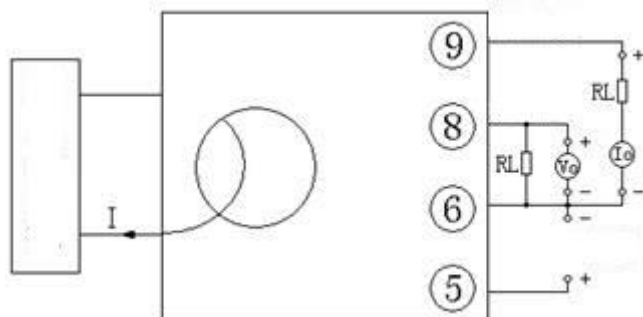

Figure 6, test wiring diagram of product accuracy.
- ①①① A high-precision high-current meter calibrator can directly input current as shown in figure 6, and record the display data of the meter calibration instrument.
- ② There is no high-current high-precision instrument calibrator, but an ordinary high-precision instrument calibrator. Use ampere-turn method to output small current (5A, 10A or higher), and input it to the transducer input coil. The precision ammeter is tandem connection to the calibrator output end to detect input current, and convert the input current I value according to the ampere-turn method.